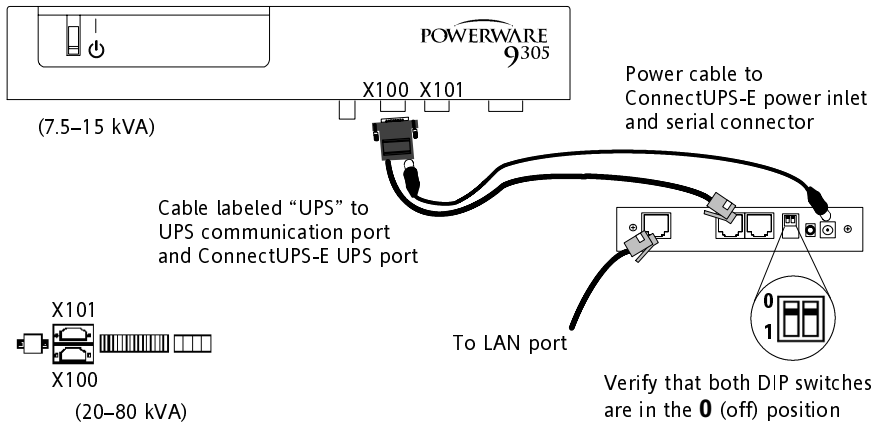

Figure 4. Installing the ConnectUPS-E with a Powerware 9305 UPS
3. **If the X100 port is available**, use the supplied serial cable labeled “UPS” to connect the UPS port on the ConnectUPS-E to the female, 9-pin, RS-232 port on the UPS (see Figure 4).